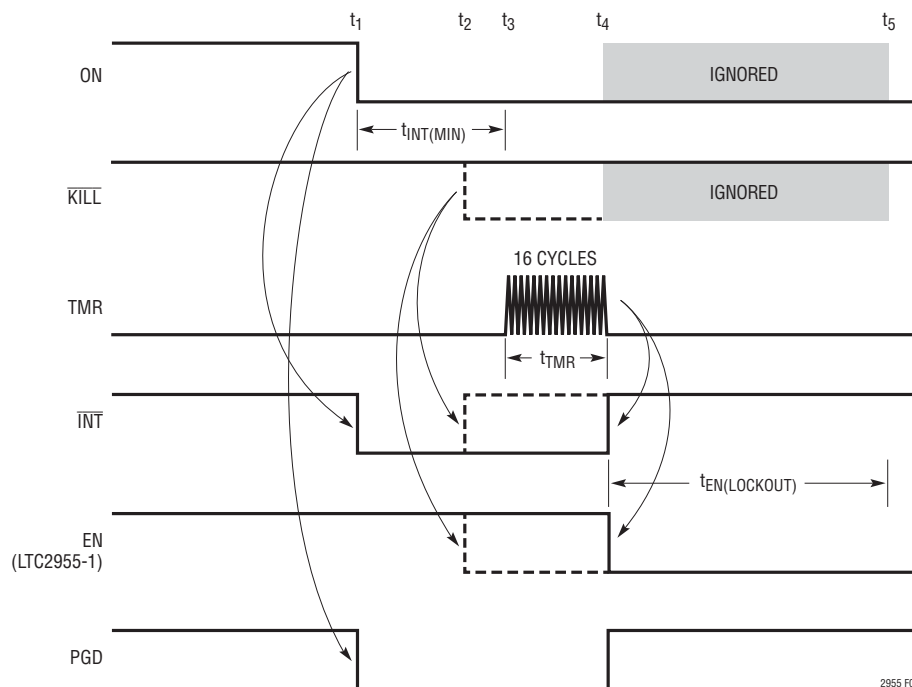

Figure 5. ON Pin Turn-Off Timing (DFN Only, $V_{SEL} > 1.2V$ and the Preceding Turn-On Sequence Was Initiated by the ON Pin Rising Edge)
Figure 5 shows the turn-off sequence of the LTC2955-1 initiated by the ON pin. The timing sequence is slightly different from that by the pushbutton as there is no debounce time ($t_{DB(OFF)}$) before the \overline{INT} pin pulls low. The ON pin falling edge can start the turn-off sequence only if the following two conditions are met: (1) The preceding turn-on sequence was initiated by the ON pin rising edge, and (2) The SEL pin must be tied high ($>0.8V$). For TS8 package, the ON pin falling edge is ignored.
In Figure 5, a high to low transition at ON (t_1) starts the turn-off sequence. The interrupt output (\overline{INT}) is asserted immediately when the ON pin goes low. Unlike the \overline{PB} pin turn-off sequence, there is no 32ms debounce time ($t_{DB(OFF)}$) for the ON pin going low. This allows the system to initiate a shutdown as soon as the monitored supply is removed and allows the μP the maximum amount of time
to perform power-down functions. The \overline{INT} pin will stay low for at least 32ms ($t_{INT(MIN)}$). When the μP receives this interrupt signal, it should start to perform its power-down functions and assert the \overline{KILL} input low (t_2) once it is done. The LTC2955-1 will then release the EN and \overline{INT} outputs, thus turning off the system power, as shown with dotted lines in Figure 5.
If the μP fails to respond (\overline{KILL} pin remains high, as shown with solid line in Figure 5) and the ON pin remains low 32ms after \overline{INT} goes low, the external timer will start counting for 16 cycles (t_{TMR} , t_3 to t_4). If the ON pin remains low at the end of the 16 cycles (t_4), the LTC2955-1 will force the EN pin low and the \overline{INT} pin high. See Applications Information for adjusting t_{TMR} .